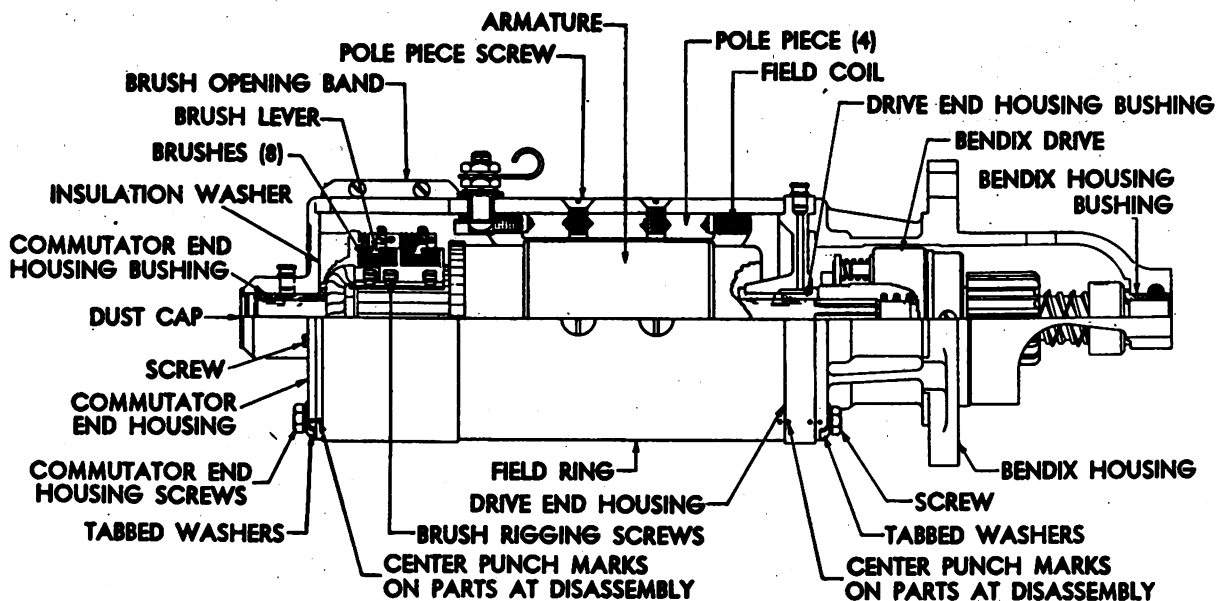

Fig. 216. Line Drawing of Cranking Motor
marks may be lined up in reassembly. (See Figure 216.)
(4) Bend down the tabs on the lockwasher under all the housing screws. (See Figure 216.)